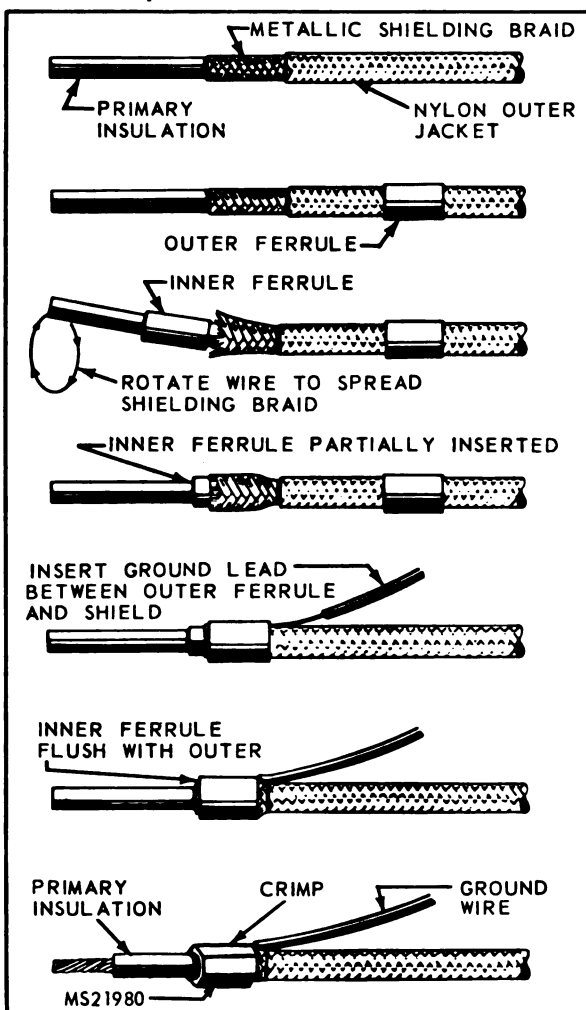

Figure 2-28. Two Piece Grounding Connection for Terminating Shielded Wire
2-61. **TWO-PIECE GROUNDING SHEATH CONNECTOR METHOD OF SHIELD TERMINATION.** See figure 2-28. The metallic braid of shielded cable can also be terminated with a two-piece grounding sheath connector, by crimping it, with or without a ground wire as required, between two ferrules (or sleeves). Use the standard MS inner and outer ferrules listed in tables 2-10, 2-11, and 2-12 and the tools listed in the tables. The procedure is as follows:
i. Insert stripped ground wire under outer sleeve (if required) and slide both forward over braid and inner sleeve until only 1/32 to 1/16 inch of inner sleeve and braid protrude. See figure 2-28. Ground wire may extend from front or back of outer sleeve as required.